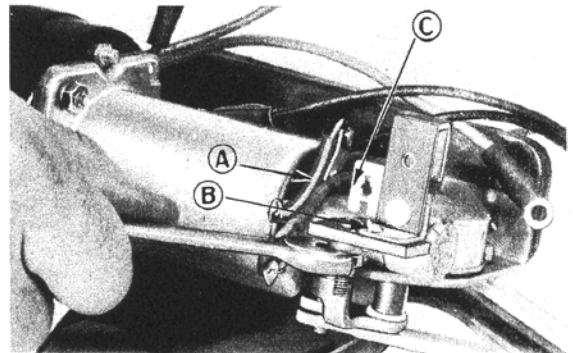

Figure 6 Removing Circuit Breaker
3. Check circuit breaker by shorting across terminals "B" and "C", Figure 6. If wiper operates when this is done, the trouble is in the circuit breaker and it must be replaced. (See "How to Replace Circuit Breaker", Page 3.)
2. Unsolder short wire ("A", Figure 6) from circuit breaker at "B", Figure 6.
3. Remove nut as shown in Figure 6.